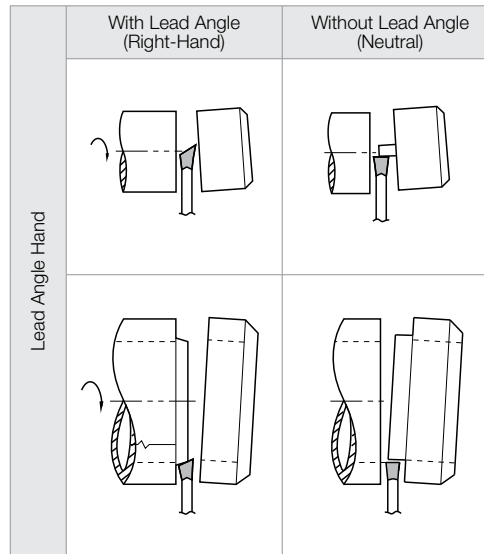

Fig.2
- 2) Use an angled insert to reduce the remaining boss. (See Fig.2)